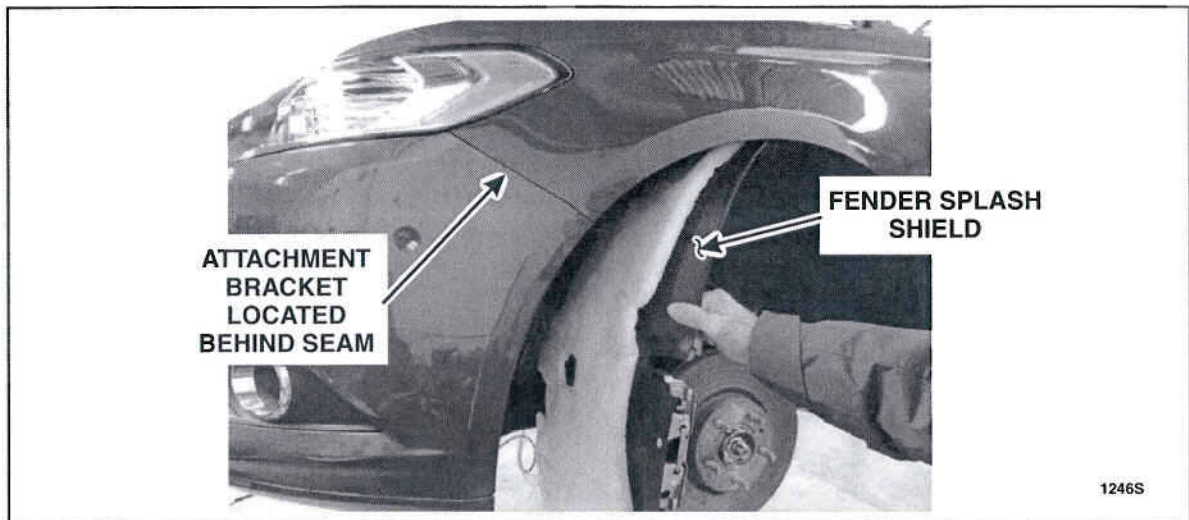

FIGURE 4
5. Position the fender splash shield aside in order to access the front bumper cover to fender attachment bracket. See Figure 4.